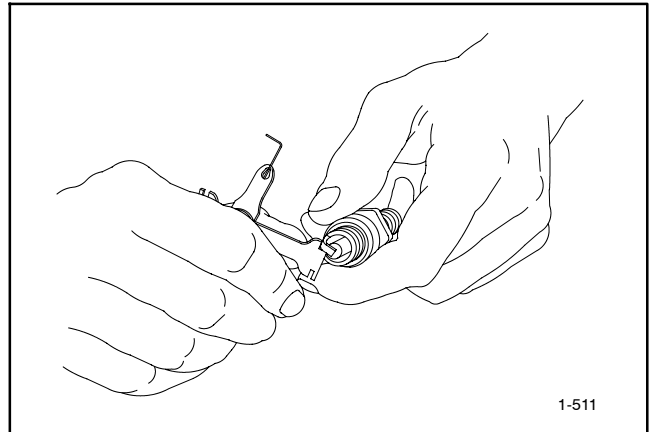

Figure 4-9 Spark Plug Gap Adjustment
10. Use a gapping tool to gently bend the side electrode closer to or farther from the center electrode to set the correct gap. See Figure 4-9. Position the side electrode directly over the center electrode.